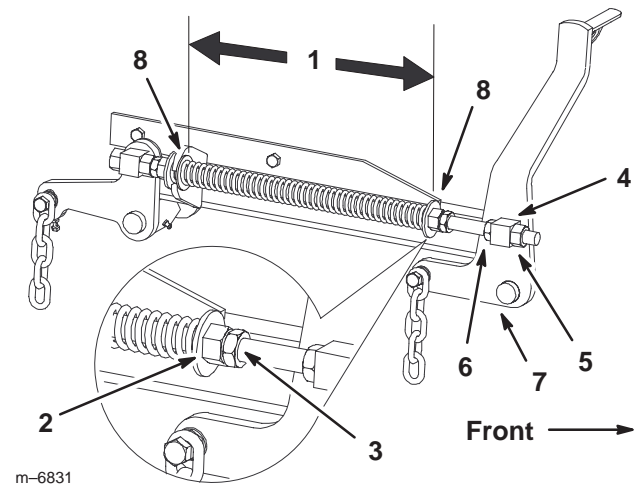

Figure 68
7. Loosen the front swivel jam nuts, at the front of the right and left swivels, approximately a 1/2 inch (13 mm) (Fig. 68).
8. Adjust the lift nuts on both the left and the right side of the machine to achieve **1/4 to 3/8 inch (6 to 10 mm) lower in front at A than in the rear at B** (Fig. 68).
2. Check the distance between the two large washers, it needs to be 10-1/2 inches (26.7 cm) (Fig. 68).
- Adjust this distance, by loosening the spring jam nut and turning the nut in front of each spring (Fig. 68). Turning the nut clockwise will shorten the spring; counter-clockwise will lengthen the spring.
- Lock the nut into position by tightening the spring jam nut (Fig. 68).